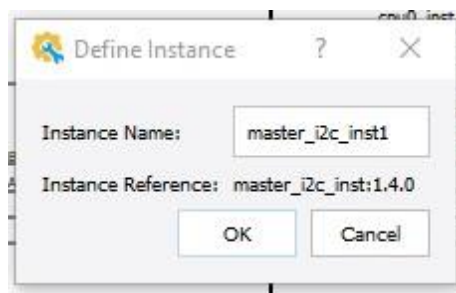

Figure 3.10. Propel Builder – Instance Name
6. The Propel Builder will request a name for the instance of the I²C Master IP, as shown in Figure 3.10.